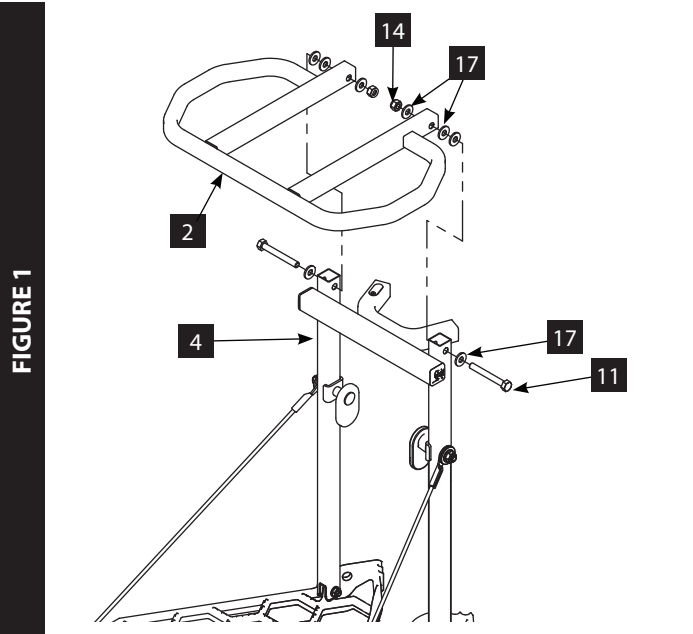

FIGURE 1
1. Bolt the metal seat frame (2) onto the seat posts (4) using two 5/16-18 x 2-1/2 IN bolts (11), 5/16-18 locknuts (14) and eight nylon washers (17). **SEE FIGURE 1.**